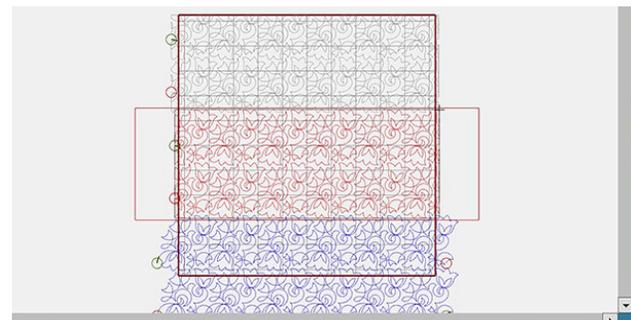

Fig. 66
6. If more than one row fits within the Safe Area, repeat the linking steps. Repeat the trimming steps for the left and right sides of the design (Fig. 66).